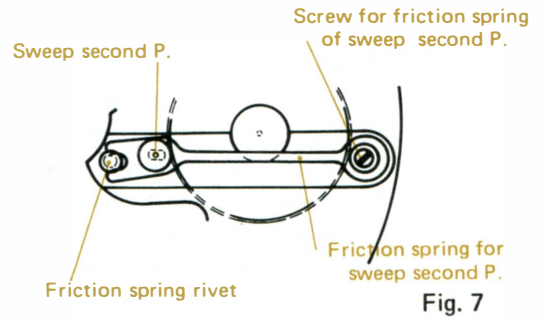

Fig. 7
(5) Friction spring for sweep second pinion (Figs. 7 and 8)